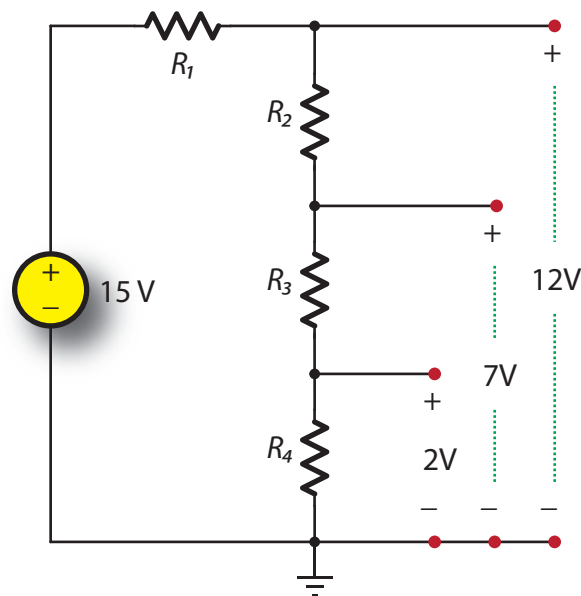

Fig. 4. Design this voltage divider circuit
Design the voltage divider circuit shown in Fig. 4 such that it produces no-load voltages of +12V, +7V and +2V with respect to the reference node, as indicated. Choose a total series resistance in the circuit such that 500 mW of power is dissipated.
- Construct the voltage divider circuit in Fig. 4 that you designed to give no-load voltages of +12V, +7V, and +2V. As in Lab #1, use the 15 V source on the breadboard. Using the DMM set to measure DC voltage, measure each of the output voltages.